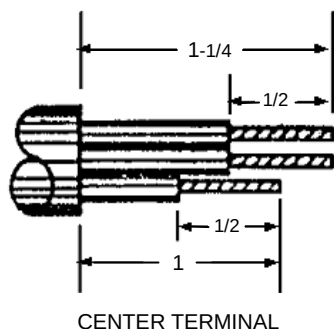

FIGURE 1
- 3.) SEE FIGURE 1 BELOW FOR STRIP LENGTH (DO NOT TIN CONDUCTORS) AND TABLE 1 FOR TORQUE VALUES FOR TERMINATIONS AND ASSEMBLY.